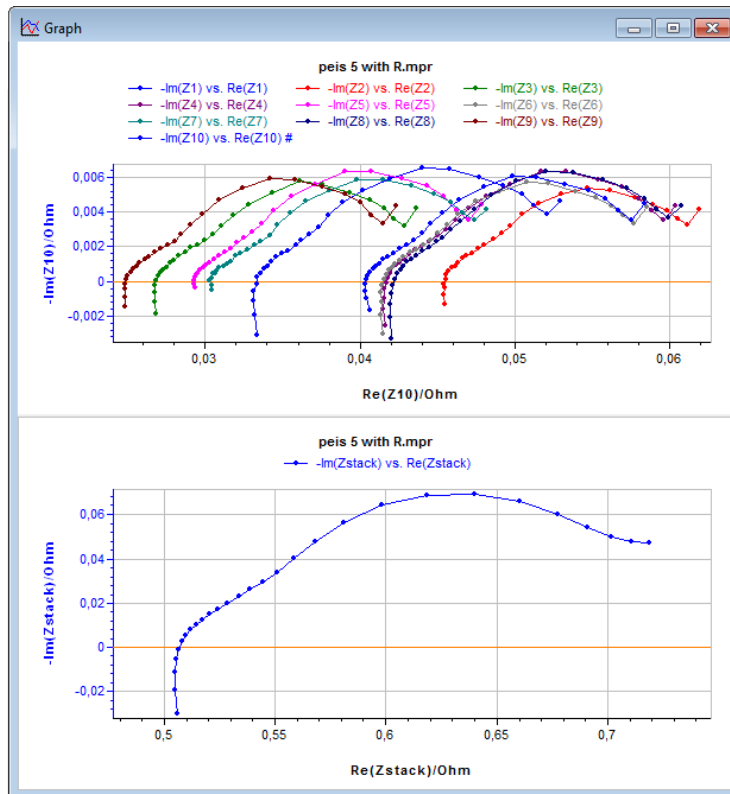

Fig. 77 : Stack PEIS measurement with the impedance graph of the whole stack (bottom) and of each slave channel (top).
- If EC-Lab® is connected to a suitable multichannel, the **Group/Synchronize/Stack** window accessed using this button will show the “**Stack**” option in the drop box (cf Fig. 77).